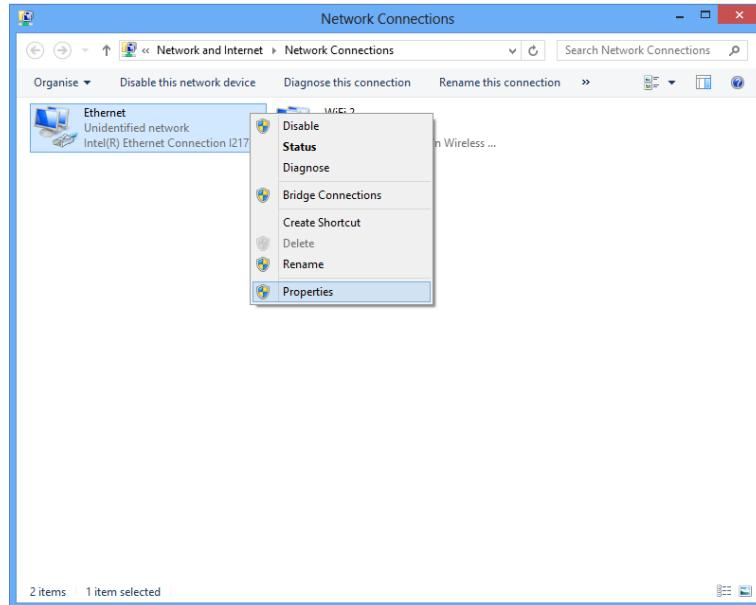

Fig. 11.3: Property window of the Ethernet network.
c. Right click on the Ethernet icon and select "Properties", as in **Fig. 11.3**.